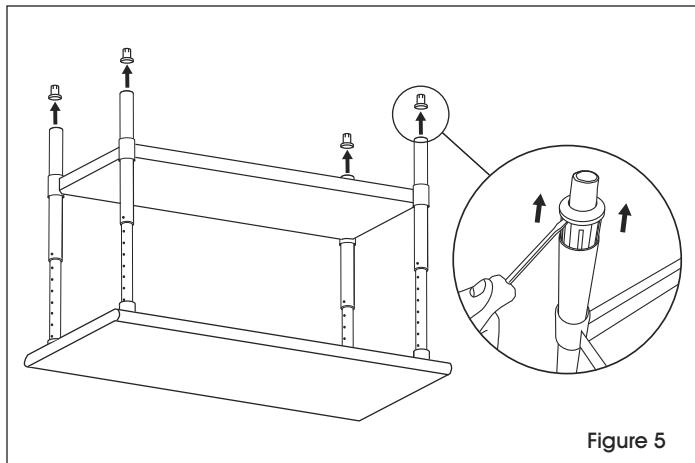

Figure 5
1. Flip the table over onto a smooth, non-marring surface. Remove adjustable feet from legs using a flat head screwdriver. (See Figure 5)